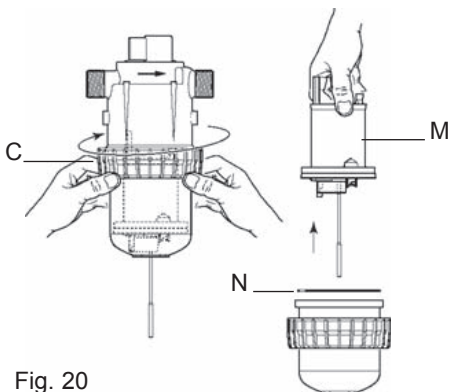

Fig. 20
- Unscrew the pump body nut by hand (**Fig. 20-C**) and disassemble pump body.
- Remove the motor piston (**Fig. 20-M**) by pulling it up.
- Change and reassemble in the reverse order to the above. To do this, insert the motor piston partially into the lower pump body (step ①) (carefully insert the lips of the motor piston) and partially into the upper pump body (step ②), taking care not to damage the pump body seal (**Fig. 20-N**), then assemble.
- Step ③: Tighten the pump body nut **by hand**.
- Refit the injection part assembly, but not without having cleaned or replaced its sealing (**Fig. 20-N**).